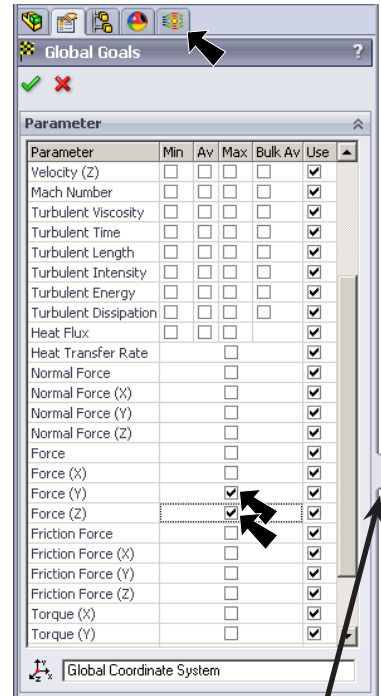

Fig. 14
Step 2. Click the **Flow Simulation** tab  in the Feature Manager, **Fig. 14**.
Step 4. Drag the edge of the Feature Manager to the right to expand, **Fig. 14**.
Force (Z) **Fig. 14**